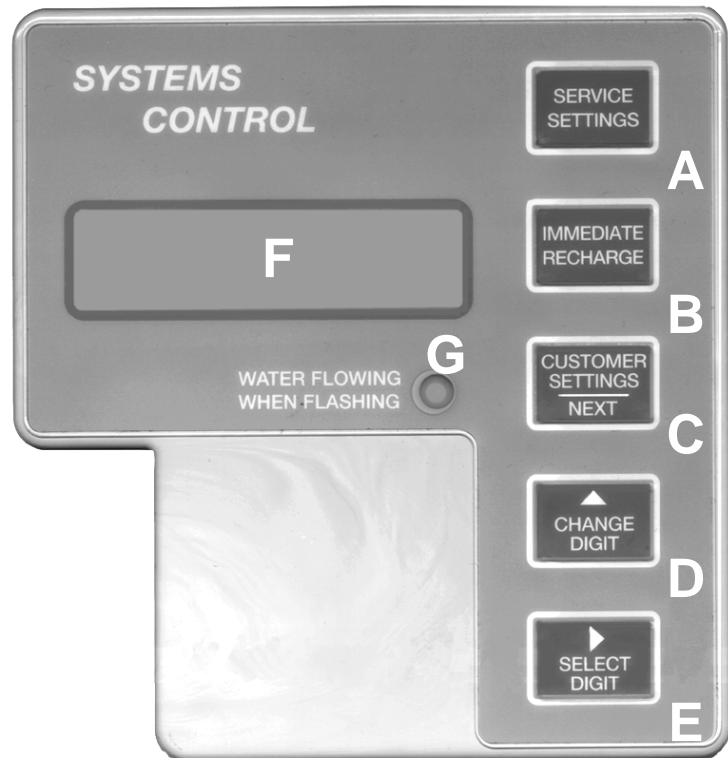

Figure 2
13. Open the inlet valve and turn on the electricity to the water heater. To complete the installation, open a cold water tap and allow the appliance to flush for 20 minutes or until approximately 72 gallons have passed through the appliance. Verify flashing light on controller, indicating water flow. (See Figure 2, below.)